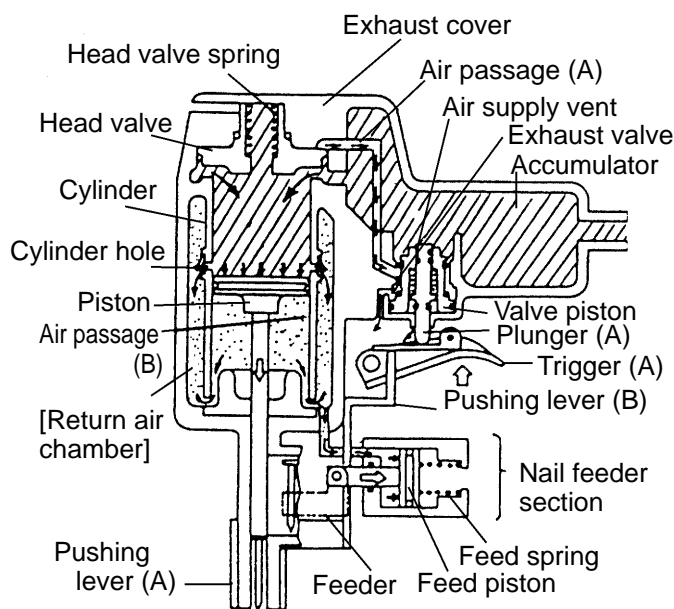

Fig. 9 During nailing (I)
(2) During nailing (I) (see Fig. 9)